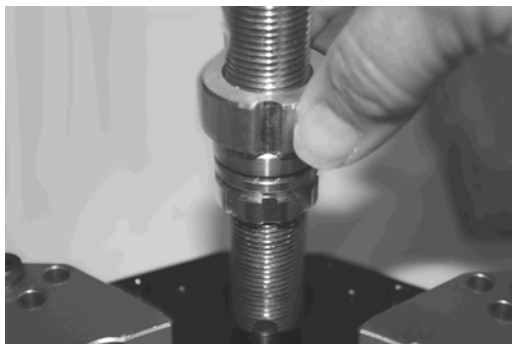

Figure 14
4. Turn the carriage nut clockwise ensuring when you complete your adjustment that the slot in the carriage nut aligns with one of the slots on the anti-backlash nut. (Figure 14)